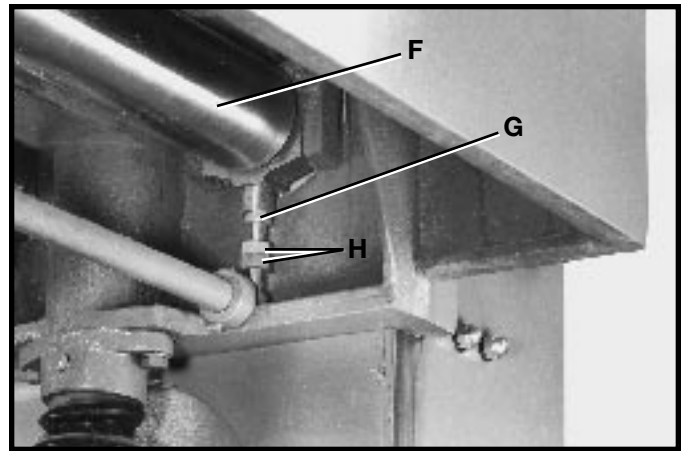

Fig. 26
7. If an adjustment to the outfeed table roll is necessary, loosen locknut (G) Fig. 26, which is located under the table and below the outfeed table roll (F), and rotate adjustment nuts (H) as necessary, to raise or lower the height of the outfeed roll (F). **NOTE:** It will be necessary to raise the table to gain access to the adjustment nuts. Tighten locknut (G) Fig. 26, after the adjustment is made.